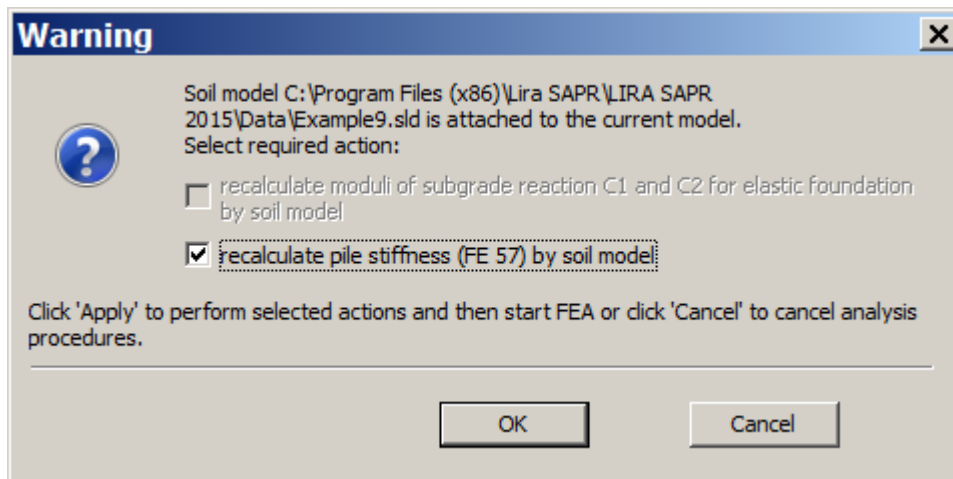

Figure 22.18. Warning box
- ⇒ In the **Warning** box (see Fig.22.18), select the **recalculate pile stiffness (FE 57) by soil model** check box and click **OK**.